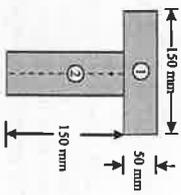

Fig. 20
- 7 Find the moment of inertia of a T-section with flange as 150 mm × 50 mm and web as 150 mm × 50 mm about X-X and Y-Y axes through the centre of gravity of the section as shown in Fig. 20